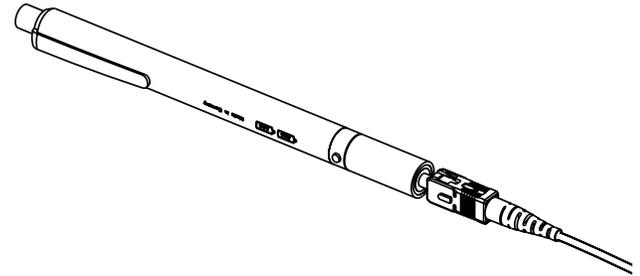

Figure 2
- a) After removing the dust cap, fully insert the connector ferrule into the adapter on the front of the locator (Figure 2).